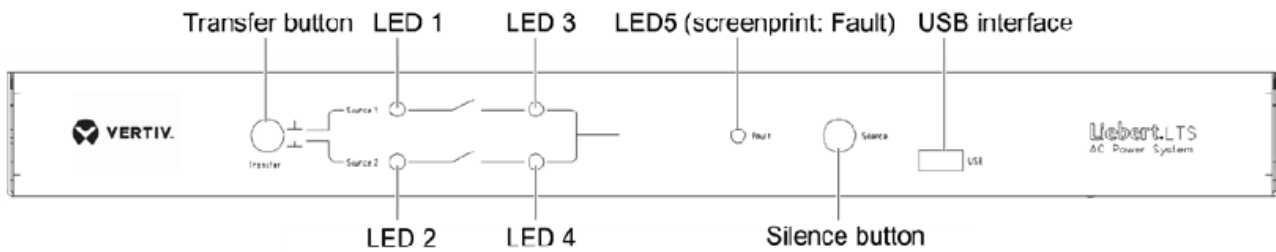
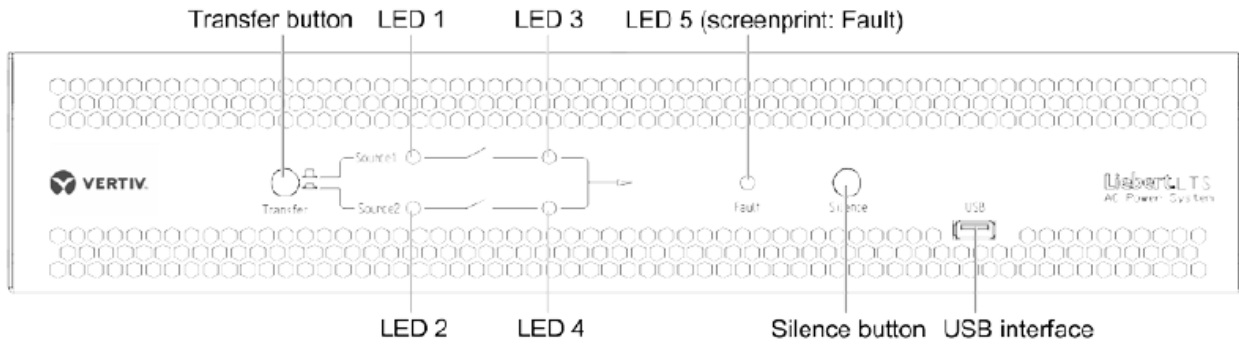

Figure 1-2 Front panel of 10A and 16A LTSs
Figure 1-3 Front panel of 32A LTS
- The LTS allows you to use the Transfer button (see Figure 1-2 and Figure 1-3) on the front panel to initiate transfers between the two sources. This is called manual transfer.
As shown in Figure 1-2 and Figure 1-3, the LTS provides LED indicators, functional buttons and USB interface on the front panel.